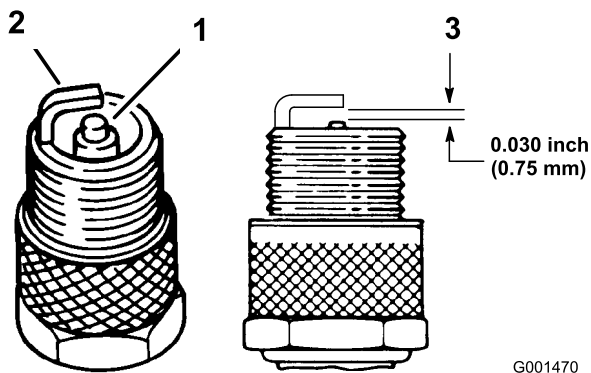

Figure 28
1. Look at the center of the spark plugs (Figure 28). If you see light brown or gray on the insulator, the engine is operating properly. A black coating on the insulator usually means that the air cleaner is dirty.
2. Check the gap between the center and side electrodes (Figure 28). Bend the side electrode (Figure 28) if the gap is not correct.
3. Connect the wires to the spark plugs (Figure 28).